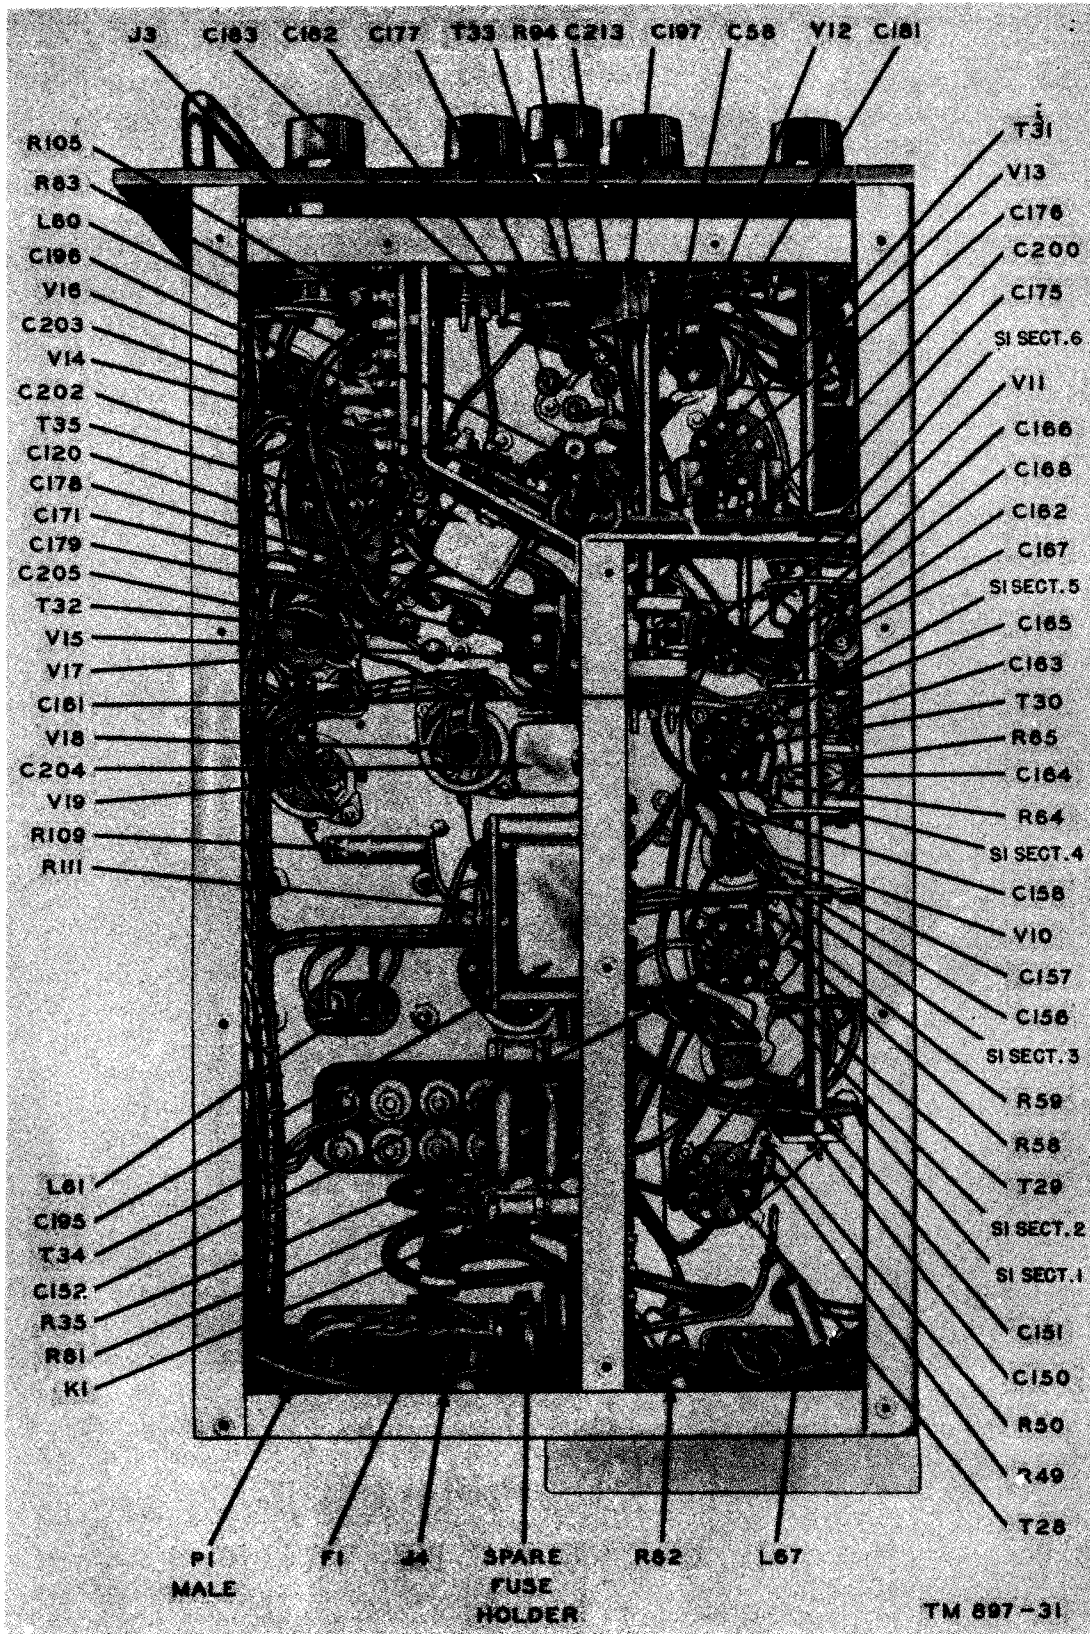

Figure 33. Radio Receiver R-274/FRR, i-f and audio chassis, bottom view.
- (1) Remove the springs from the coupling between the tuning gang capacitor shaft and dial-drive mechanism.
- (2) Remove the dial pointer and dials.
- (3) Remove the three screws which hold the dial drive to the chassis. Openings in the front plate are provided to gain access to these screws.
- (4) Slide the drive forward and upward, pulling away from the chassis.
- (5) To replace the assembly, reverse the above steps. Do not use too much force on any of the shafts. Forcing may result in bending the component parts. The dial-drive mechanism requires special adjustment to assure alinement of the dial scale with the tuning gang. See paragraph 80b for the instructions.
*c. Selectivity Switch (fig. 33).* Selectivity switch S1 is disassembled from the bottom of the chassis as follows:
- (1) Remove the top and bottom dust covers.
- (2) Disconnect all the leads to the switch gang terminal.
- (3) Remove the four screws which hold the terminal board through which the shaft passes.
- (4) Remove the nut on the shaft mounting bushing by using a ½-inch open-end wrench.
- (5) Remove the screws in the bracket which hold the rear end of the switch to chassis. This is done by unscrewing the two No. 6-32 screws from the top of the chassis. Leave the bracket fastened to the switch.
- (6) Slide the switch toward the rear of the chassis and lift it out. Use caution to prevent breakage of other components.
- (7) Replace the switch by reversing the above steps. Be careful not to break the leads.